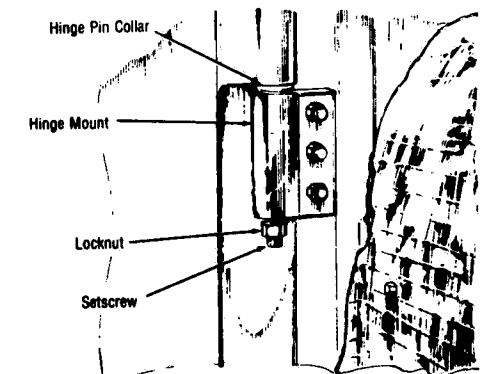

Figure 7-3. HINGE CLEARANCE.
- c. Check the upper hinge pin to be sure the door is riding on the ball (Fig. 8-22, 16). Measure the clearance between the hinge pin collar and the top of the upper hinge mount as shown in Fig. 7-3. If the clearance is not at least 1/16", loosen the locknut and adjust the setscrew. Retighten the locknut.